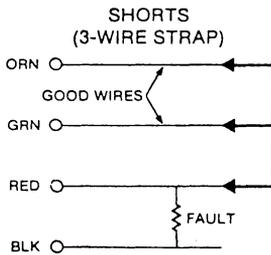

FIGURE 3
2.04 Hookup and Strapping for Shorts (3-wire strap) - For shorts when two good wires are available, connect the test cord clips as shown in Figure 3. Place a **solid strap** across the two good wires and faulted wire at far-end of cable.